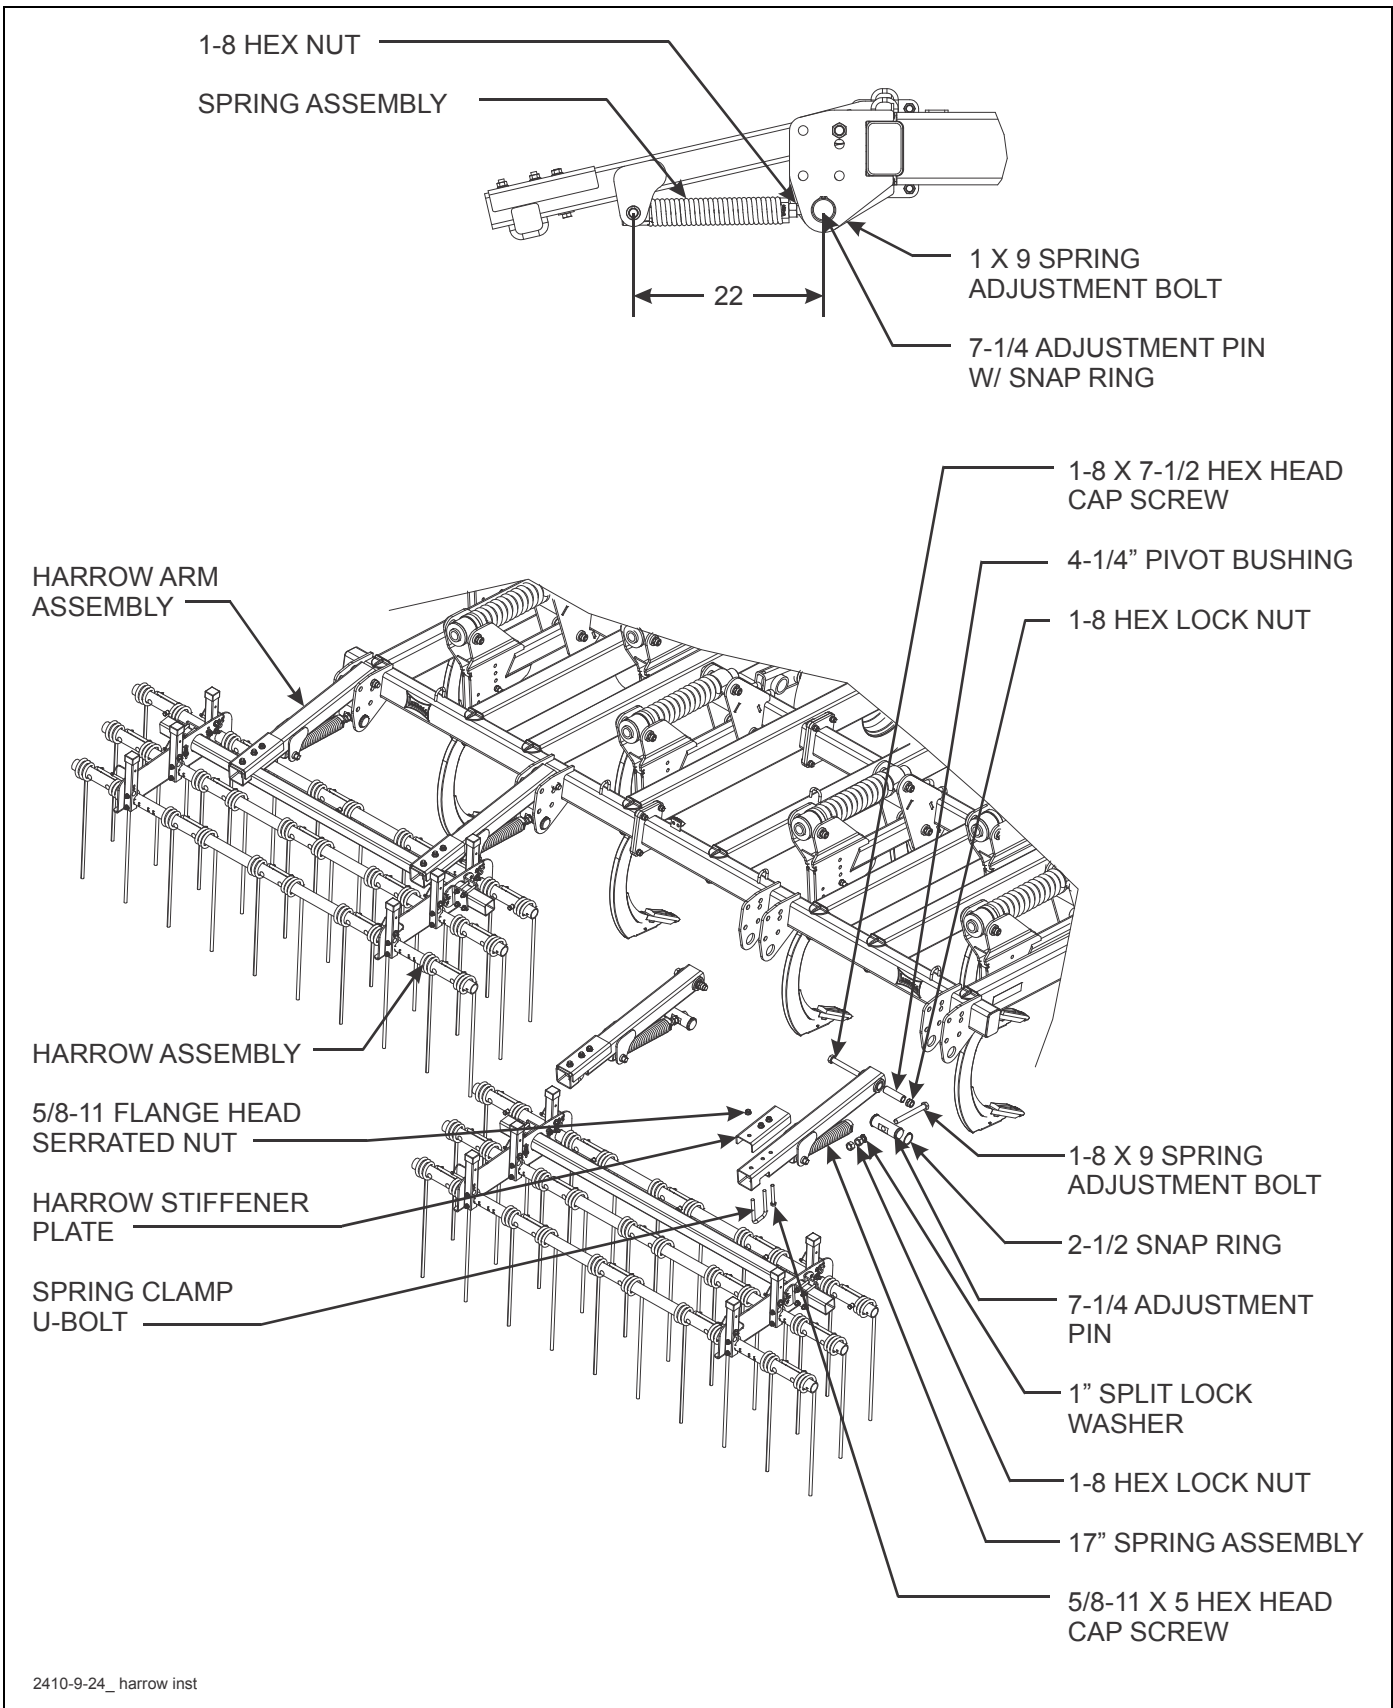

Figure 3-31: Finishing Harrow Installation
1. Attach harrow arms to rear of frame in top hole using 1-8 x 7-1/2 hex head cap screws and hex lock nuts (See Figure 3-31.)